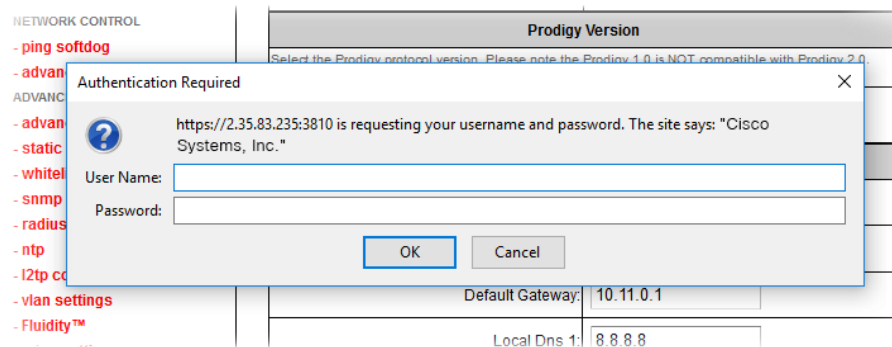

Figure 64. Web browser (Authentication Required dialog)
- The web browser will show the **Authentication Required** dialog (Figure 64 (page 147)). If needed, use the dialog to log in again.